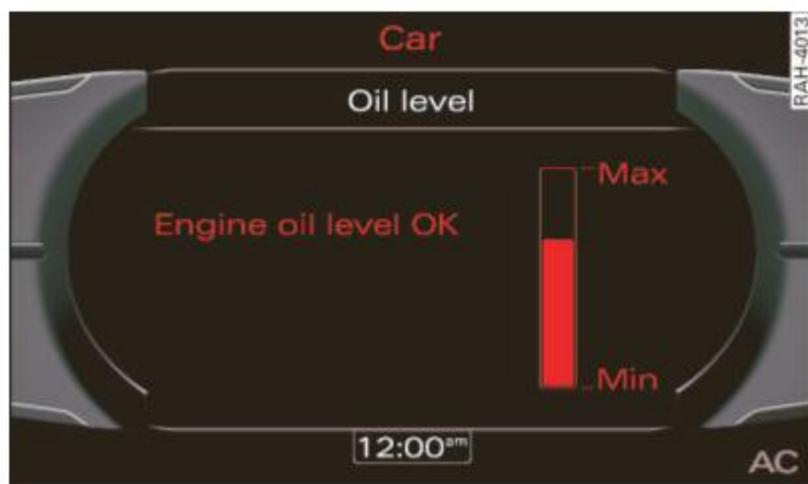

Fig. 201 Display: Oil level indicator
- Read the oil level in the radio or MMI* Display ⇒ fig. 201. Add engine oil if the bar of the oil level indicator is near "Min" ⇒ page 257.